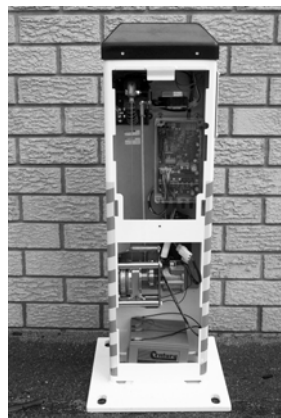

Figure 3-10: Pull-in Cable Fitted to Cable End
2. Pull the pull-in cable through the cable end until the large ball on the pull-in cable seats inside the cable end, as shown in Figure 3-10 below.